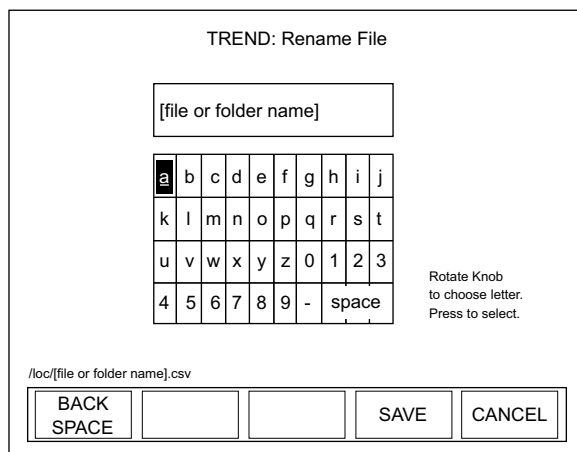

Figure 4-26. TREND: Rename File or Folder
2. Press the RENAME soft key to display a screen similar to the one shown in Figure 4-26.